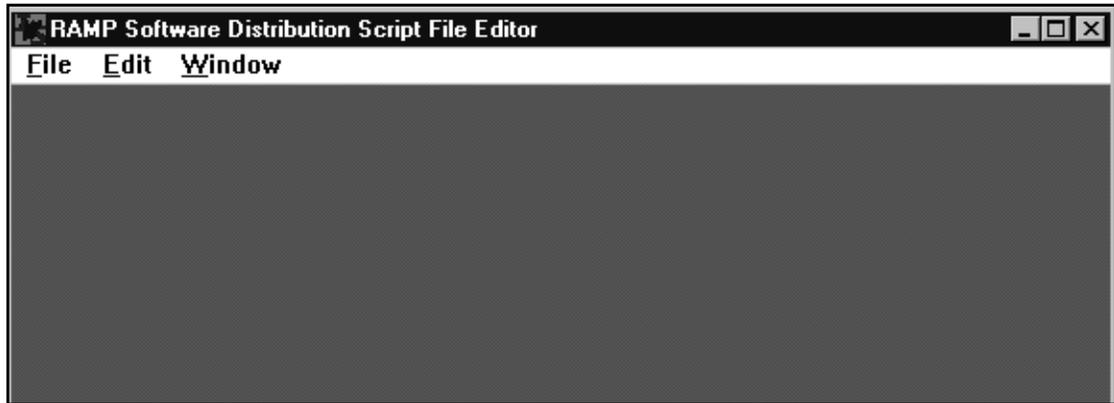

FIGURE 37. RAMP Software Distribution Script File Editor window
3. In the Tools menu, select SWD Script Editor. (See Figure 37.)